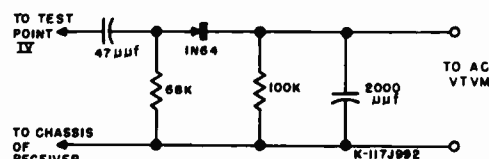

FIG. 3 DETECTOR NETWORK
5. Connect the detector network shown in Figure 3 to Test Point IV and feed its output to an AC VTVM.